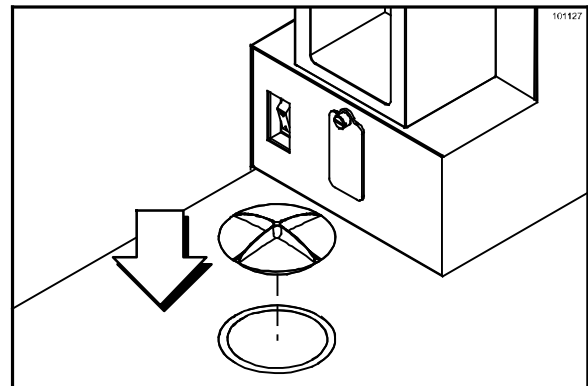

Figure 76
21. Dry the whipped cream holder cover with a single-use sanitized towel. Install the cover over the opening on the machine. (See Figure 76.)